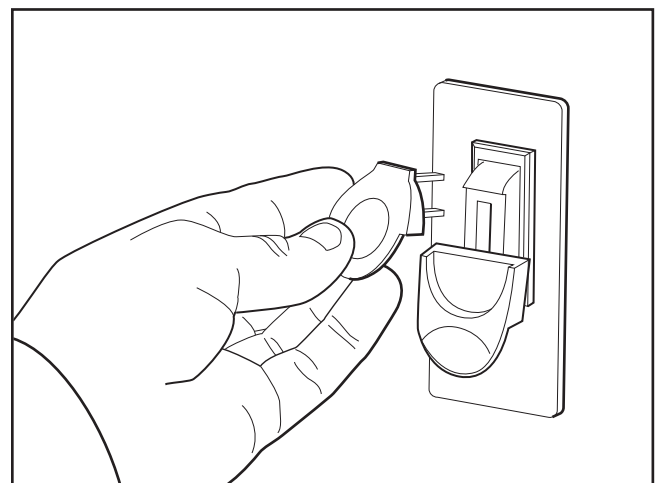

Figure 11. Disabling switch.
8. On Model H8148 and H8149 remove the safety key (**Figure 11**) and attempt to turn the machine **ON**.